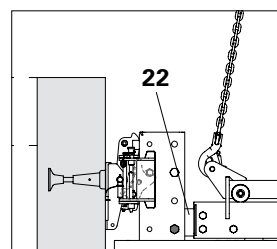

Fig. C3.03a
4. Attach Crossbeam (**21**) with Crossbeam Head RCS/VARIO (**22**) in 4th hole  $\varnothing 26$  of the Climbing Rail using bolt M24 x 130-8.8 (**108**). (Fig. C3.03a)